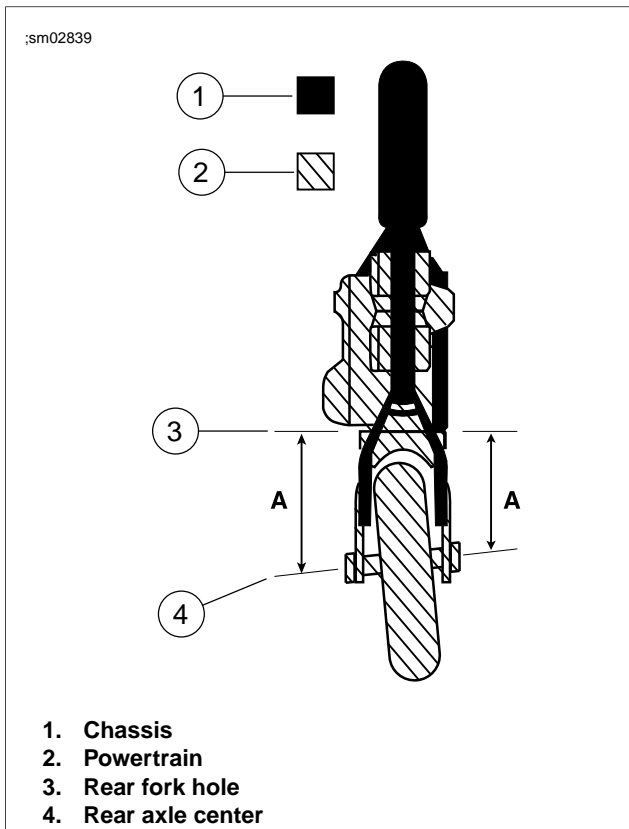

Figure 2-60. Adjust Axle Adjusters until A = A
6. See Figure 2-60. The measurement between the center of the rear axle and the rear fork hole must be equal to within 1/32 in. (0.8 mm) on both sides of the motorcycle. If it is not, adjust the rear wheel with the axle adjusters to accomplish the equal measurement. It is extremely important that this adjustment be made as accurately as possible in order to make the remaining adjustments accurate.